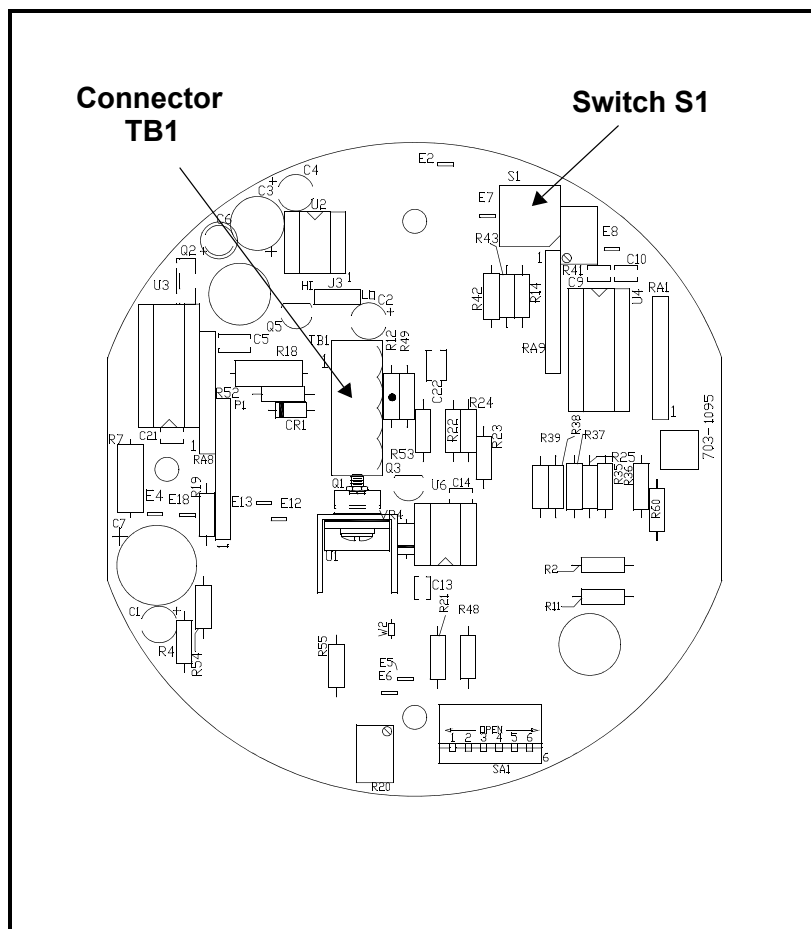

Figure 5-3: TB1 and S1 Locations on PCB 703-1095
1. Connect the current lead of the multimeter to TB1, Pin 3, and the return lead to TB1, Pin 2. Note that TB1 can be unplugged from the PCB for easy connections. See Figure 5-3 below for the location of TB1.
Note: *If R41 does not provide enough gain, you can adjust switch S1 (Coarse gain adjustment rotary switch) on PCB #703-1095 clockwise. See Figure 5-3 on the previous page for the location of S1.*
1. Connect the current lead of the multimeter to TB1, Pin 3, and the return lead to TB1, Pin 2. Note that TB1 can be unplugged from the PCB for easy connections. See Figure 5-3 on page 5-6 for the location of TB1.
Note: *If R41 does not provide enough gain, you can adjust switch S1 (coarse gain adjustment rotary switch) on PCB #703-1095 clockwise. See Figure 5-3 on page 5-6 for the location of S1.*